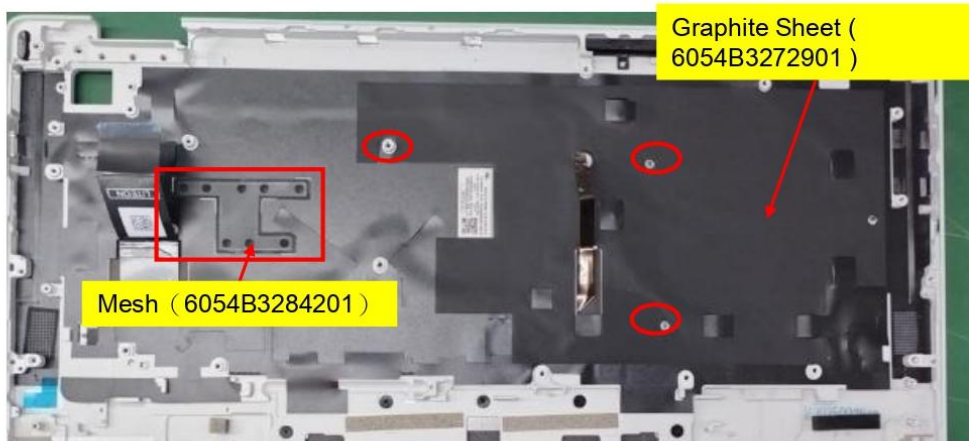

Figure 1
1. Dismantling graphite sheet (6054B3272901) (Fig. 1)
2. Dismantling mesh(6054B3284201) (Figure 1)